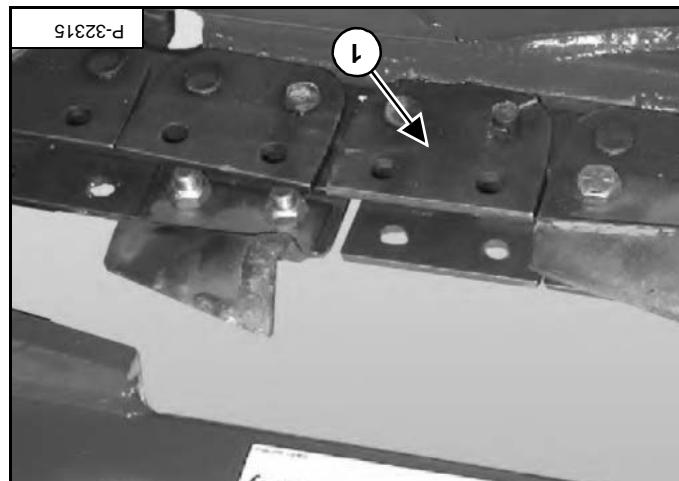

Figure PM-20
Remove the retainer pin (item 1) [Figure PM-20].